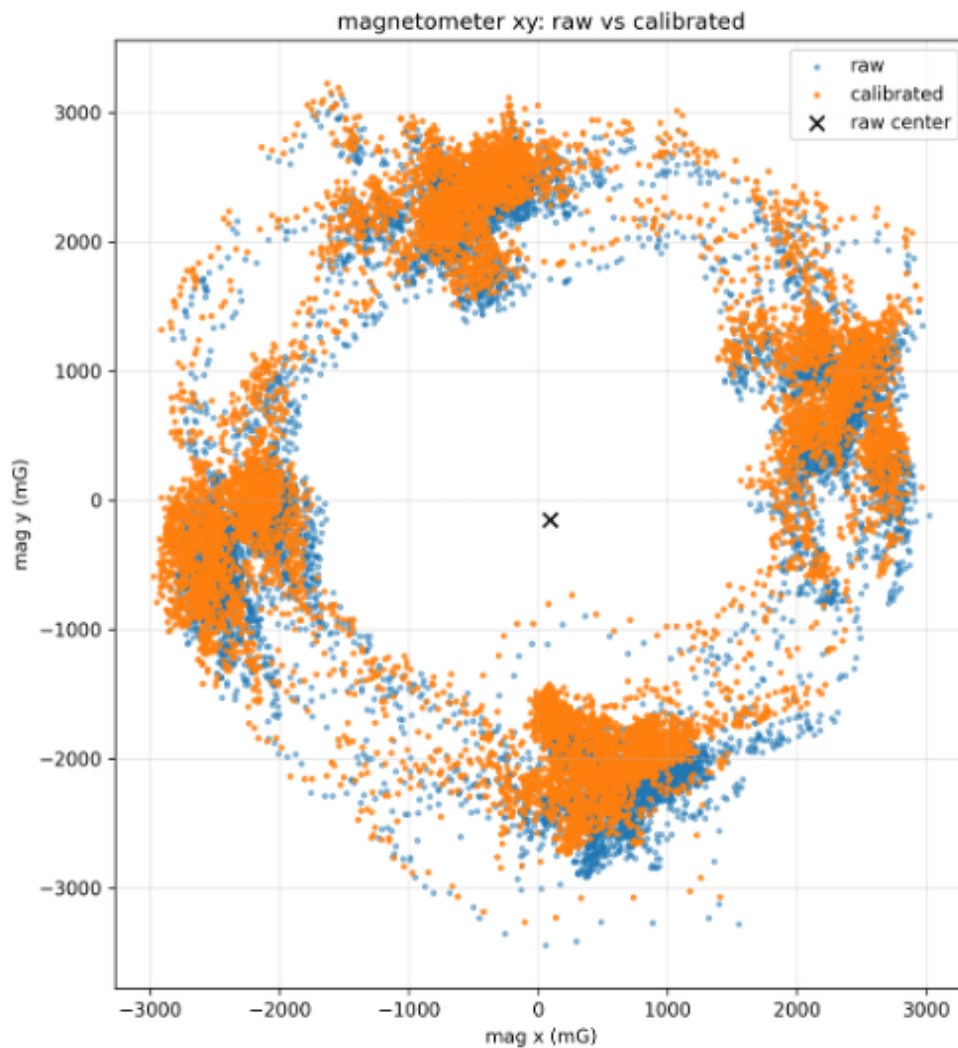

Figure 9: Magnetometer calibration for square walking - before and after calibration
**Task:** Plot the N vs. E components of magnetic field and apply your circle walking calibration to your dataset. Plot two marker styles on the same figure to display the data before/after calibration (Fig. 9).